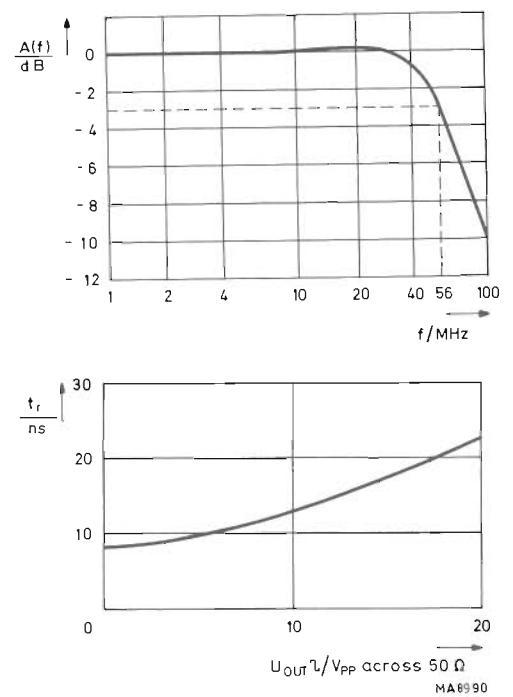

Fig. 9. Graph of amplitude response and rise time
- 3.1.5.2. The cascode part U6/303, 305; 304, 306 inverts and amplifies the voltage. The amplification is adjusted with potentiometer U6/626, while the symmetry is adjusted by means of U6/624. The total gain (no load operation) amounts to 4.4. The bandwidth then is ca. 56 MHz which corresponds to a rise time of ca. 20 ns (see fig. 9). The amplitude response and the step function response is optimally compensated by U6/751 and 507 (see fig. 9).